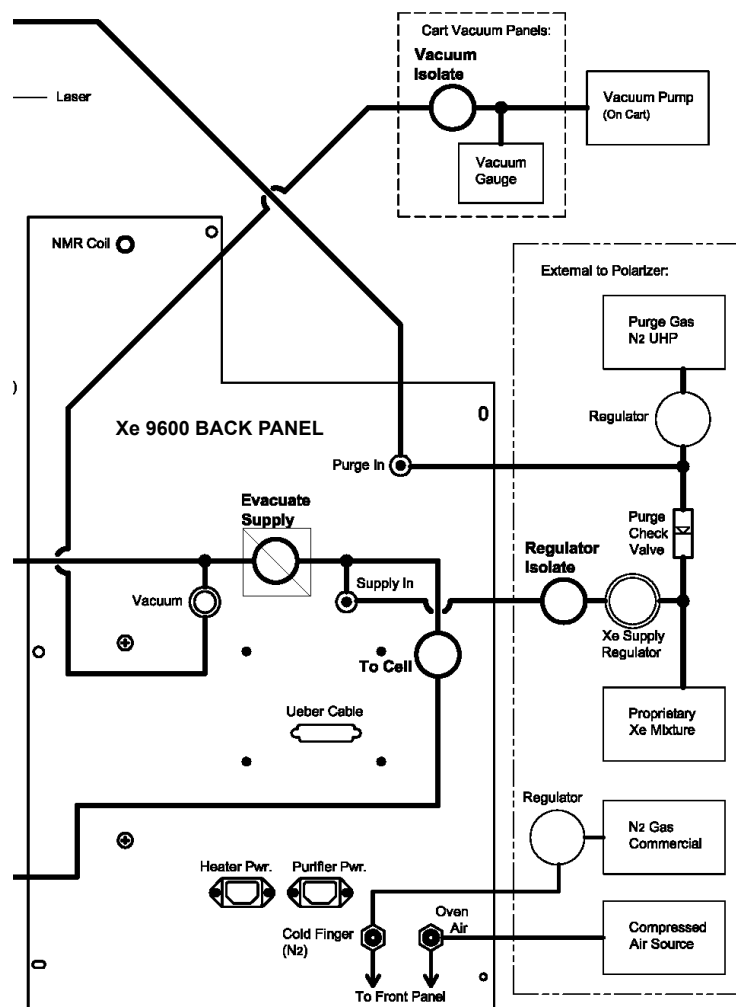

Figure 3: Xenon polarizer rear panel
9. Using 1/4" OD OFHC copper tubing cleaned for O₂ service, connect the high purity purge gas to the female quick connector on the **Purge In** port on the back of the cartridge – see **Figure 3**. Tighten the compression fittings on the quick connector body 1 1/4 turns past finger tight.
10. Using 1/4" OD OFHC copper tubing cleaned for O₂ service, connect the outlet of the regulator manifold to the female quick connector on the **Supply In** port on the back of the cartridge – see **Figure 3**. Tighten the compression fittings on the quick connector body and the regulator manifold outlet 1 1/4 turns past finger tight.
13. Verify that all valves on the unit (in front and on the back) are closed snugly (except for **Flow Control** valve). Confirm that the quick connector for the vacuum line is plugged securely into the mating connector of the **Vacuum Inlet** port on the back of the cartridge – see **Figure 3**.